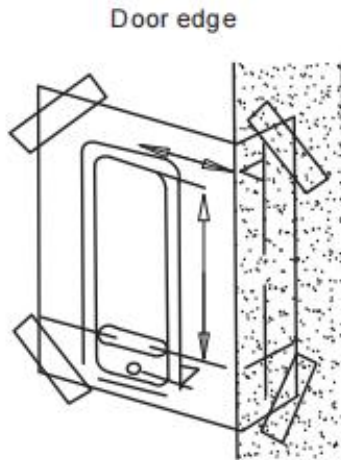

Fig.2
- 1) Correctly position and affix the template (Model 209 product template) to the surface of the internal door. Required height off the floor. Ensure that the relevant, marked, door edge alignment template should be properly aligned with the actual door edge. (see figure 2)